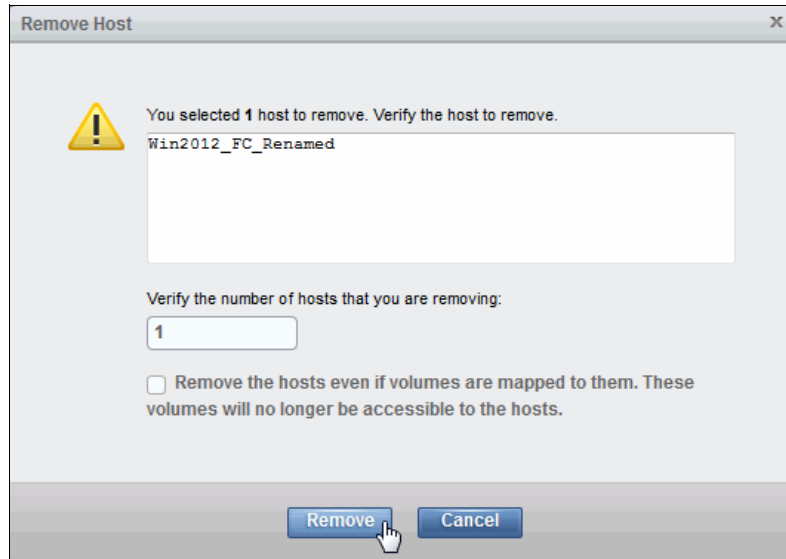

Figure 8-20 Removing a host
2. A prompt is displayed requesting confirmation of the number of hosts to be removed. Enter the number of hosts to be removed and click **Remove**, as shown in Figure 8-20.
If it is necessary to remove a host with volumes assigned, deletion must be forced by selecting the option to **Remove the hosts even if volumes are mapped to them** (see Figure 8-20). This removes both the host and its associated volume mappings.